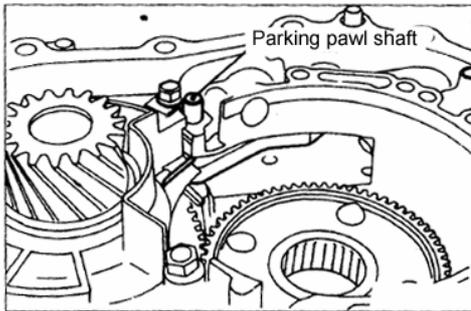

Fig 11A-76
(24) Install the parking roller bearing, and then install two parking roller support bearings. See Fig.11A-77.
(25) Install the underdrive sun gear and thrust